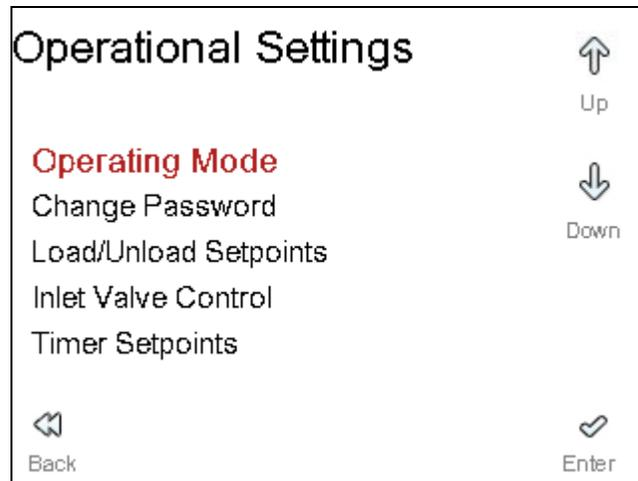

Figure 3-3: Operational Settings Menu
4. Press the *Enter* button. The *Operational Settings* menu will appear as illustrated by Figure 3-3.